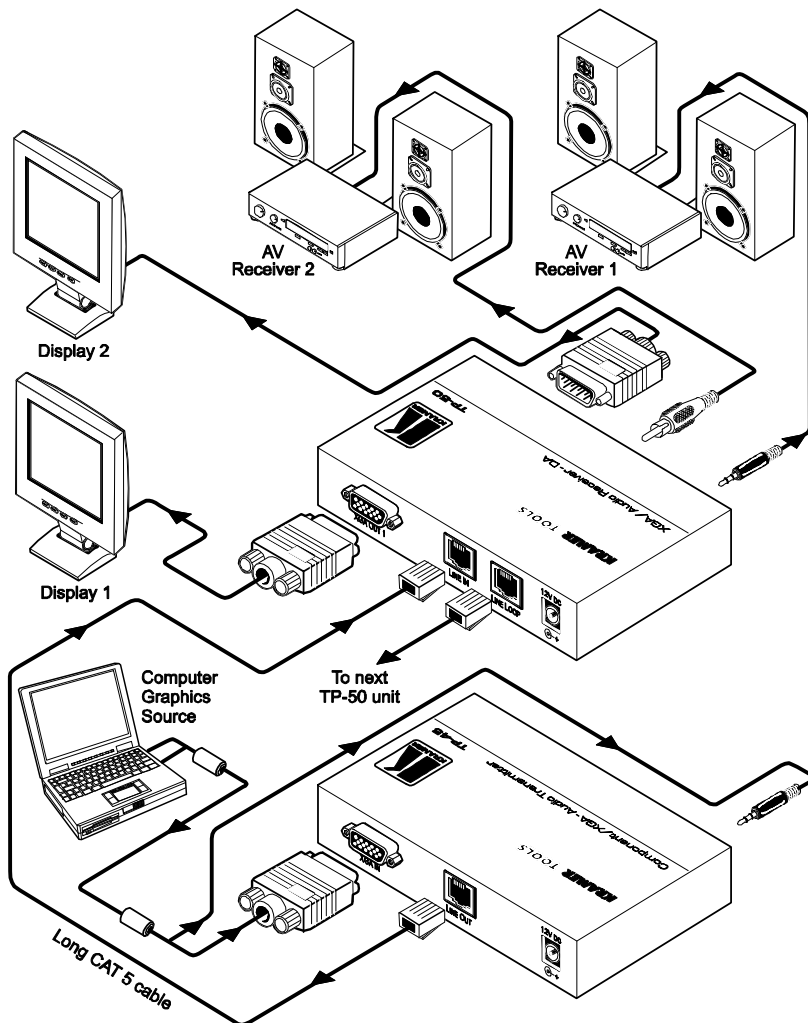

Figure 3: Component/XGA – Audio Distribution System, XGA Mode
To configure a **TP-45 / TP-50** XGA / Audio Line Receiver – DA system2 as illustrated in the example in Figure 3, do the following:
4. Connect the 12V DC power adapter to the power socket and connect the adapter to the mains electricity on both6 the **TP-45** and the **TP-50** (not shown in Figure 3).